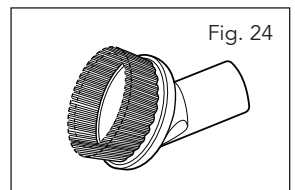

Fig. 24
The upholstery nozzle (21) is specially designed for vacuuming solids on upholstery and carpets. (Fig. 24).